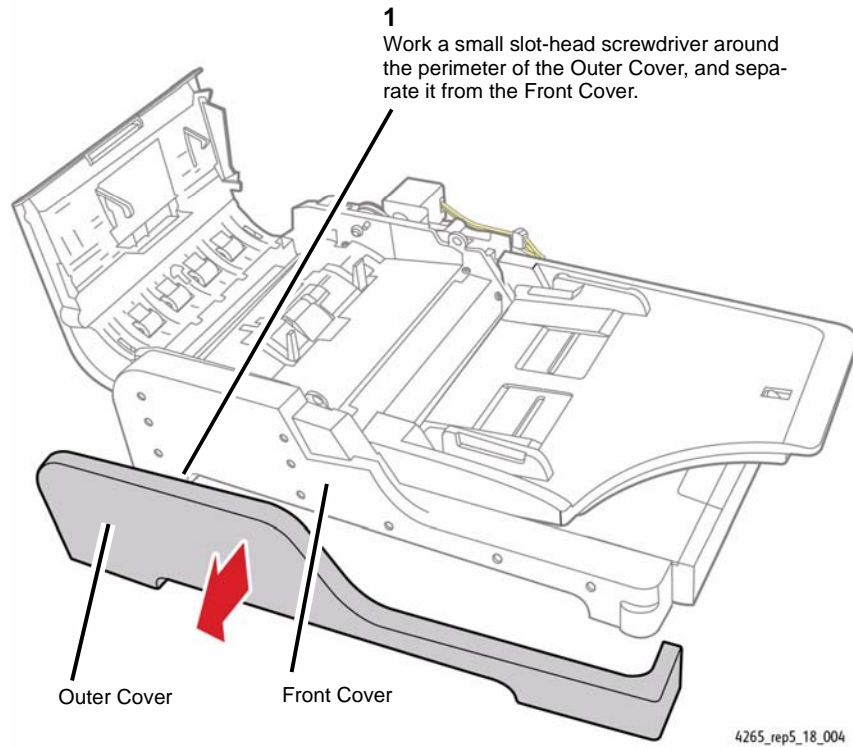

Figure 4 Removing the Outer Cover from the Front Cover
- Remove the Outer Cover from the Front Cover of the DADF (Figure 4).